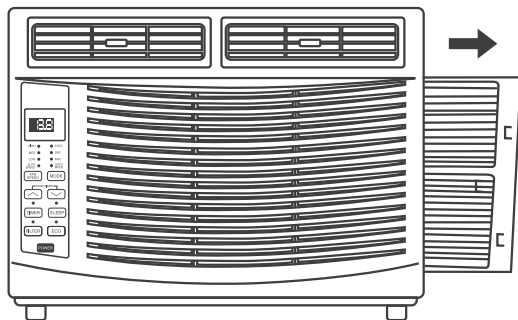

Fig.15
- Take off the power plug, then remove the filter by sliding it out. (See Fig .15)